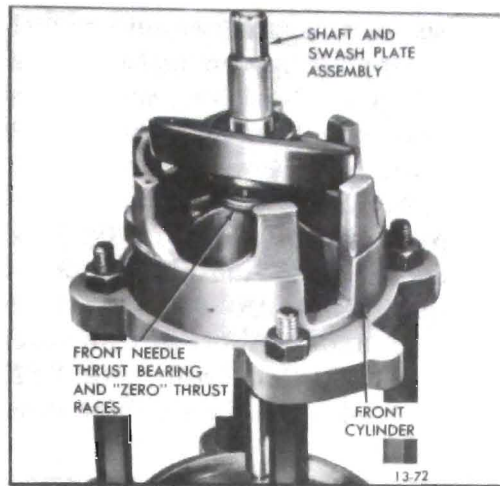

Figure 13-96 Shaft and Front Needle Thrust Bearing in Cylinder Half
2. Place front cylinder on top of compressing fixture (J-9397) as shown in Figure 13-96.
3. Generously coat with clean petroleum jelly two "zero" thrust races, and a new needle thrust bearing. Assemble races and bearing to front end of shaft and swash plate assembly and insert assembly into front cylinder (see Figure 13-96.)
13. Remove cylinder assembly from inside compressing fixture (J-9397), place on top of compressing fixture (see Figure 13-96) and disassemble rear cylinder from front cylinder using rubber mallet or hammer and wood block.